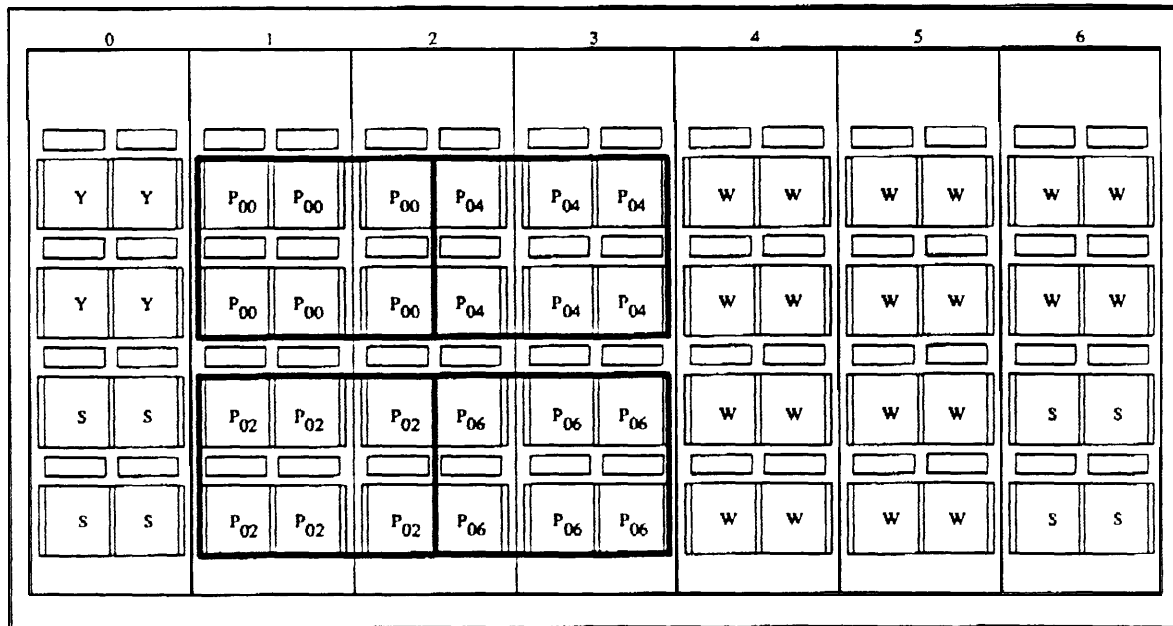
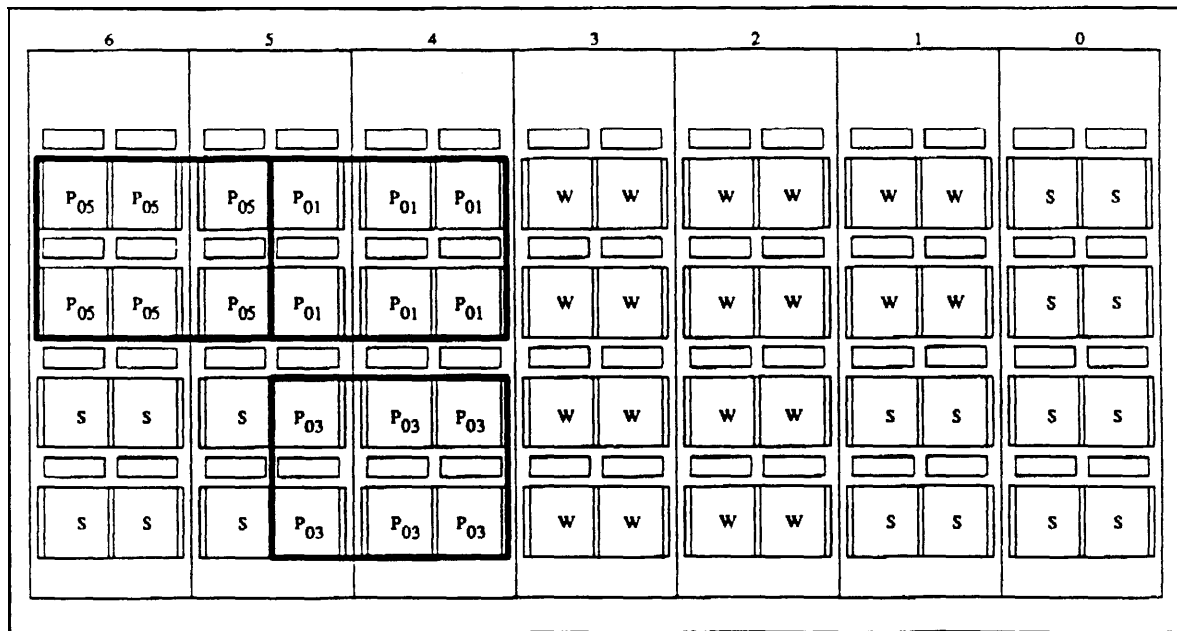

Figure 10-5. 7-Module System Mounted on Self-Supporting Type-2 Frame, Front
Figure 10-6. 7-Module System Mounted on Self-Supporting Type-2 Frame, Rear
- *Frame arrangements.* Figure 10-5, *7-Module System Mounted on Self-Supporting Type-2 Frame, Front*, and figure 10-6, *7-Module System Mounted on Self-Supporting Type-2 Frame, Rear*, show an arrangement requiring seven type-2 frames. Since this arrangement uses zones, the distribution cable is separated on the MDF. One side of the frame lineup supports three modules and the other side supports four, thus most of the spare distribution cable pairs are placed on the side with four modules. This arrangement is a desirable one, with good jumper capacity, a modest amount of spare area, and good expansion potential. Since jumper management is the most important consideration in the design of the MDF, designers should consider type-2 frames for installations of six cabinets or greater.